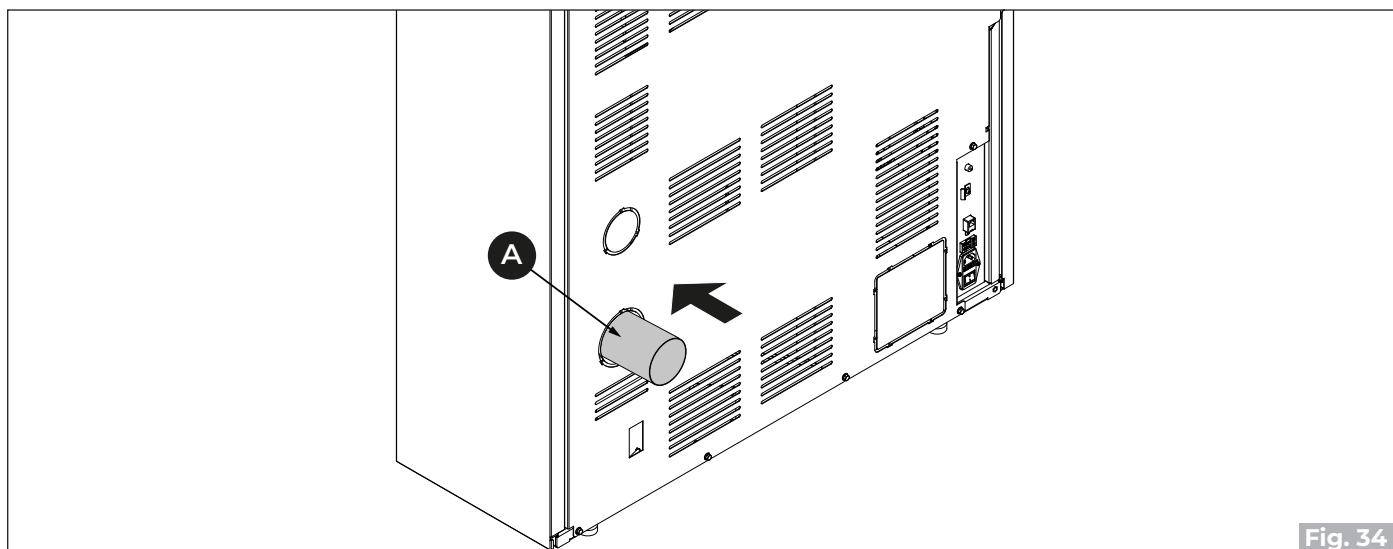

Fig. 34
- Connect the flue gas outlet pipe **(A)** ("Fig. 34").